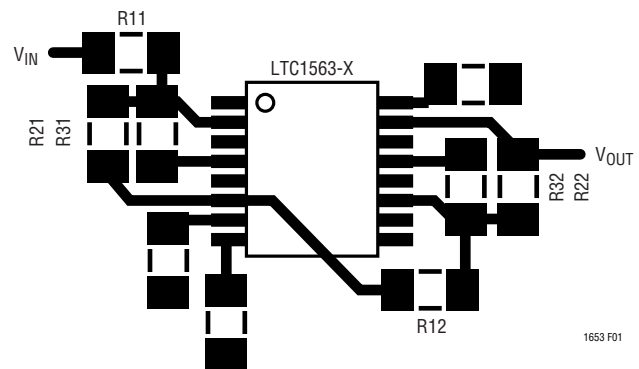

Figure 1. PC Board Layout
**AGND (Pin 7):** Analog Ground. The AGND pin is the midpoint of an internal resistive voltage divider developing a potential halfway between the  $V^+$  and  $V^-$  pins. The equivalent series resistance is nominally  $10k\Omega$ . This serves as an internal ground reference. Filter performance will reflect the quality of the analog signal ground. An analog ground plane surrounding the package is recommended. The analog ground plane should be connected to any digital ground at a single point. Figures 1 and 2 show the proper connections for dual and single supply operation.
**$V^-$ ,  $V^+$  (Pins 8, 16):** The  $V^-$  and  $V^+$  pins should be bypassed with 0.1 $\mu$ F capacitors to an adequate analog ground or ground plane. These capacitors should be connected as closely as possible to the supply pins. Low noise linear supplies are recommended. Switching supplies are not recommended as they will decrease the filter's dynamic range. Refer to Figures 1 and 2 for the proper connections for dual and single supply operation.
Figure 1 illustrates a good layout using the LTC1563-X with surface mount 0805 size resistors. An even tighter layout is possible with smaller resistors.